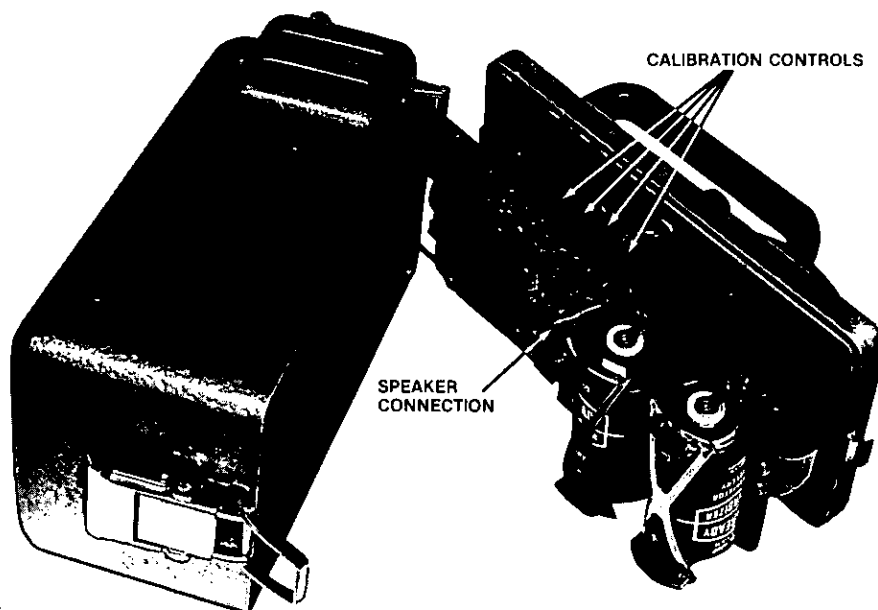

Figure 2-1. Pulse Rate Meter, Model PRM-6, Internal
2. Internal (See Figure 2-1)
C. CALIBRATION (See Figure 2-1)